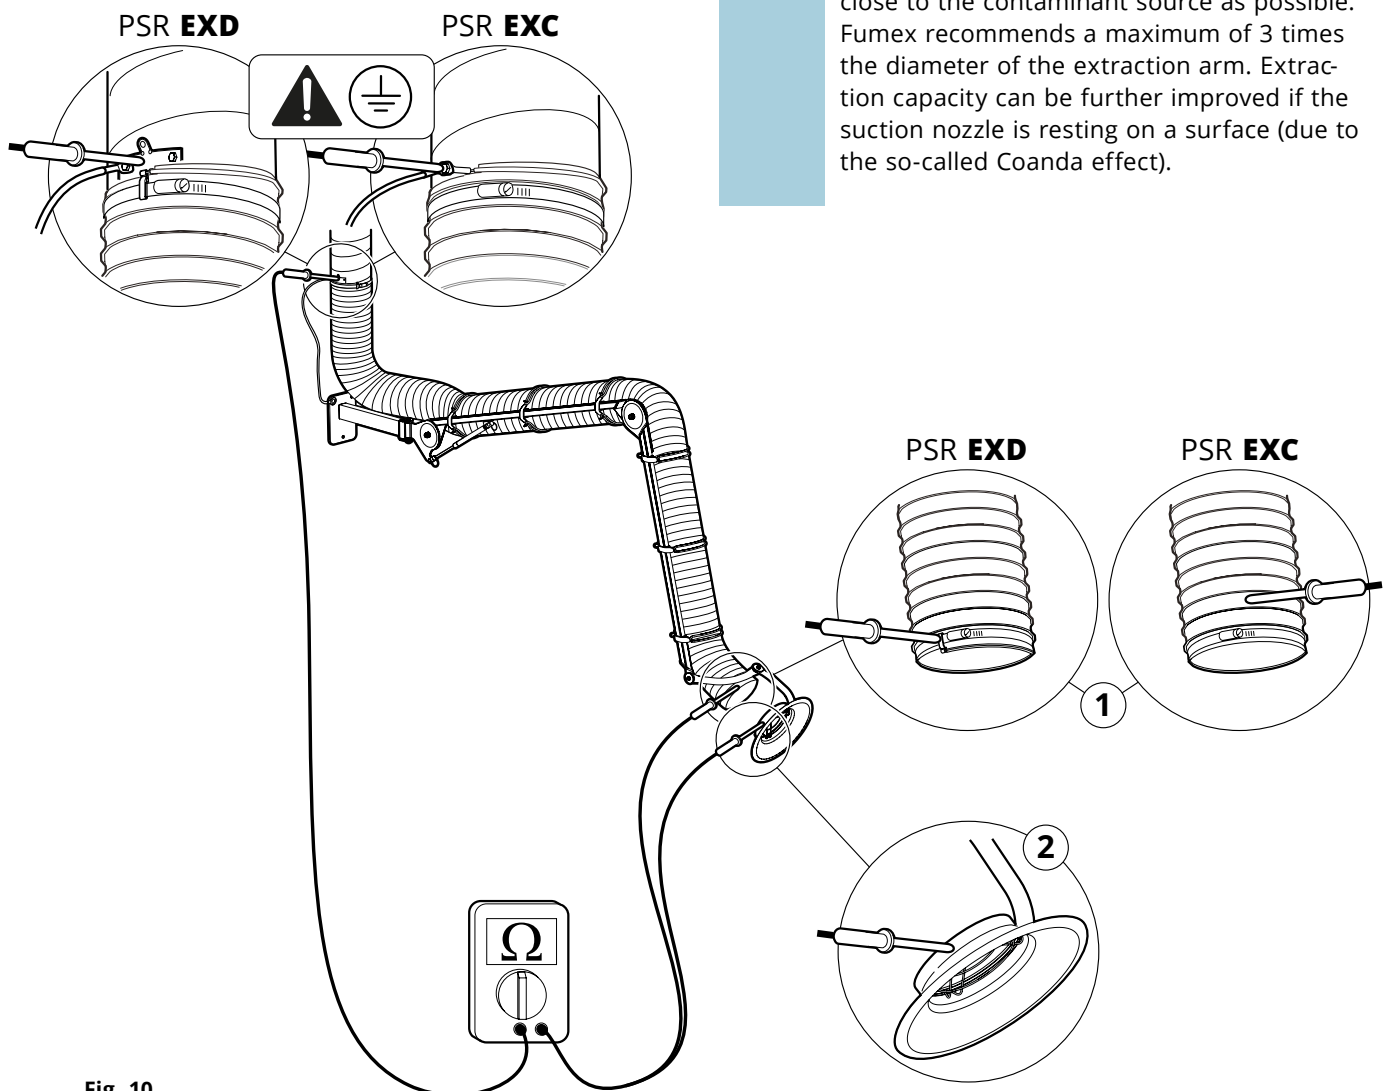

Fig. 10
3. Check the resistance of the hose with a calibrated ohmmeter. See 1, **Fig. 10**. The resistance between the measuring points (earth plane/hose end) must be less than 1 MΩ.
4. Check the resistance of the extraction arm with a calibrated ohmmeter. See 2, **Fig. 10**. The resistance between the measuring points (earth plane/hood) must be less than 1 MΩ.